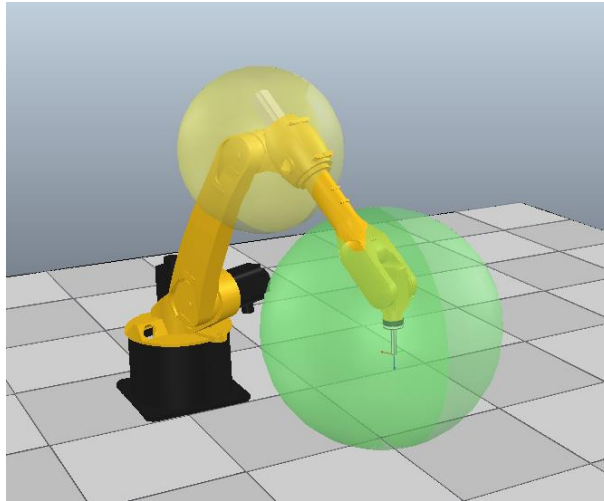

Figure 6-67 Robot's J5 "Axis Envelope" and "Tool Envelope" inside working zone
- Step3.** When both "Tool Envelope" and "Axis Envelope" are enabled, it can be seen from Figure 6-67 that the robot's J5 "Axis Envelope" and "Tool Envelope" are all in the working zone "Sphere" status.